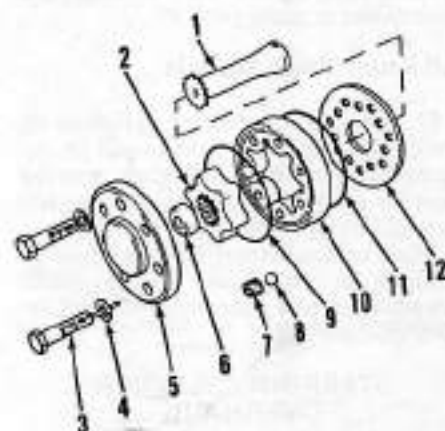
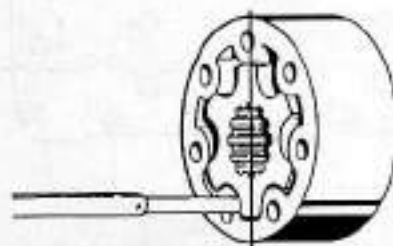

Fig. 45—Exploded view showing steering valve rotor set, drive shaft and related parts.
Fig. 49—View showing method of installing centering springs and shaft seal using Case special tools CAS-1238 and CAS-1239.
91. Clamp steering valve lightly in a vise with rotor end up. Remove the seven cap screws retaining end cap (5—Fig. 45) and remove end cap noting position of cap screw (3) which has pin. Remove spacer (6), rotor (2), stator (10), plate (12) and drive shaft (1). Remove
**NOTE:** If available, Case special tool CAS-1239 will aid in installing centering springs. To use, slide tool through spring slots of sleeve and spool, assemble springs and place ends in slot of tool, then compress opposite ends of springs and slide springs into position while pushing tool out. See Fig. 49.
bearing race facing away from thrust bearing. Use a suitable driver to install shaft seal (9) in valve body with lip toward outside. Lubricate "O" ring (10) and install it on outside diameter of seal ring (11), then install assembly on end of spindle of Case special tool number CAS-1238. See Fig. 49. Push seal and spindle into sleeve of special tool until firm resistance is met and insert assembly into valve body until sleeve bottoms. Use a rotating motion and push on tool spindle until "O" ring seats in body and remove tool. Install sleeve, spool and bearing assembly into body and rotate assembly as it passes through seal assembly. With spool and bearing assembly installed, position so drive pin is at right angles to flat surface containing pipe (hose) ports. Place valve in soft jawed vise with bottom end up and install check ball (8—Fig. 45) and threaded insert (7). Do not overtighten threaded insert. Place new "O" ring in body and install drive shaft (1) with slot engaging drive pin. Install plate (12) and align oil holes with oil holes in body. Install rotor (2) over splines of drive shaft **MAKING CERTAIN** one valley of rotor aligns with drive pin slot of drive shaft.
Install spacer (6—Fig. 45) on drive shaft. Install new "O" ring (9 and 11) on each side of stator (10), install stator over rotor and align bolt holes. Use new seals (4) on cap screws and install end cap (5) making certain cap screw with pin (3) is installed in correct location (over check ball). Tighten cap screws to 27 N·m (20 ft.-lbs.) torque.